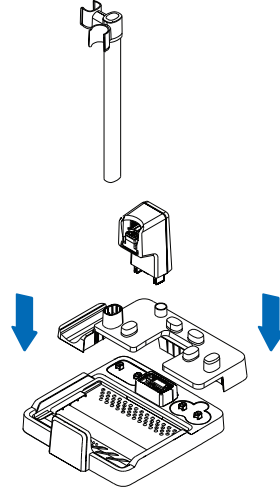

Imagen 1
- Attach pet grooming tool to the flexible hose. Connect the hose to handheld vacuum. Reference Figure 1 for proper configuration.